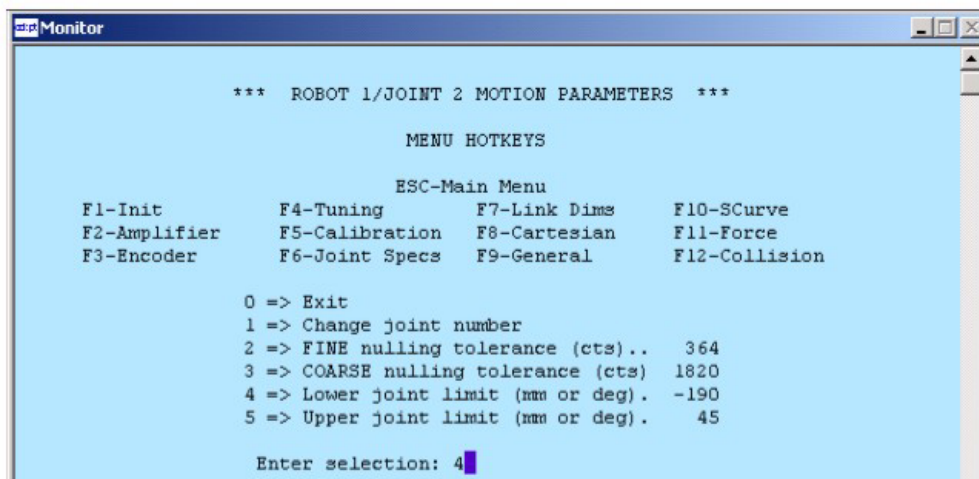

Figure 2-4. Joint 2 Motion Parameters Menu
4. In the next menu, select option 1 => Change joint number, and enter 2. Verify this at the top of the screen, as shown in Figure 2-4.